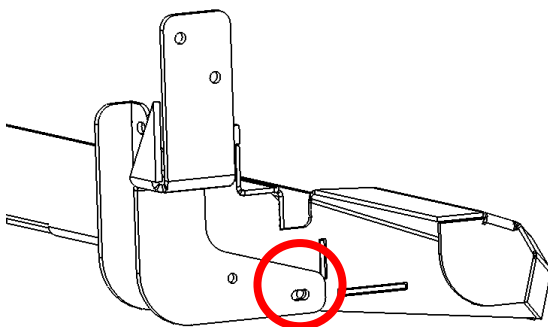

Figure 6: Rear Support Bracket Bottom Mounting
- Grab the rear most support bracket and lay under the van at the end of the step. Bolt through the slot in the bracket and hole in the end cap using 1/4"-20 hardware as shown in Figure 6 below. Then drill a hole through the end cap using the second bracket hole as a guide.